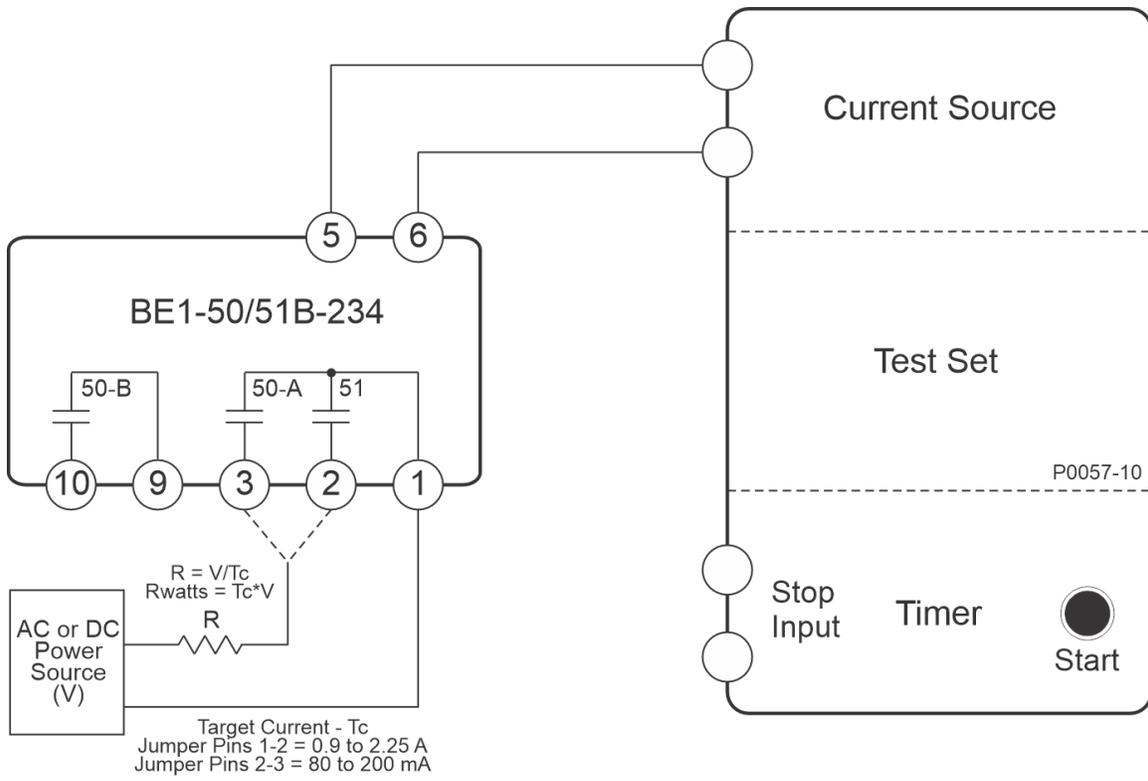

Figure 5-8. Target Indicator Test Setup
- a. Connect the test setup shown in Figure 5-8.